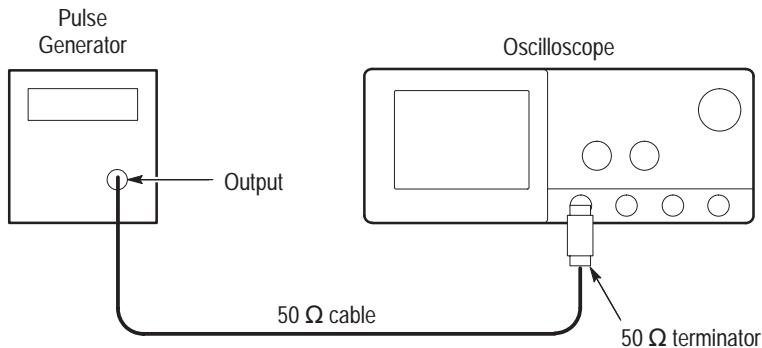

Figure 4–37: Setup for sync duty cycle test
- Connect the pulse generator through a 50Ω cable and a 50Ω terminator to the oscilloscope CH1 input. See Figure 4–37.
- Turn the pulse generator **OUTPUT (VOLTS)** control until the signal on the oscilloscope shows a one division negative-going pulse. See Figure 4–38.